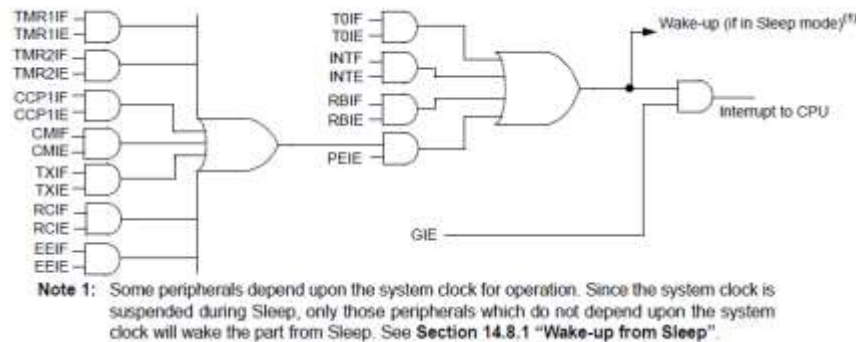

Figure 3(c)
- (ii) Write a C-language code to toggle an LED (On and Off as shown by Figure 3(d) connected to the PIC16F877A's GPIO of **RD0** using timer setup of c) by including necessary initializations. (10 marks)
- (a) Briefly explain THREE (3) types of memory in PIC16F877A microcontroller. (6 marks)
- (c) The INTCON Register of a PIC16F628A microcontroller is as shown in Table 3(c) and interrupt logic is shown in Figure 3(c). A remote control is designed to sleep most of the time and wake up on PORTB interrupt to check the device status.